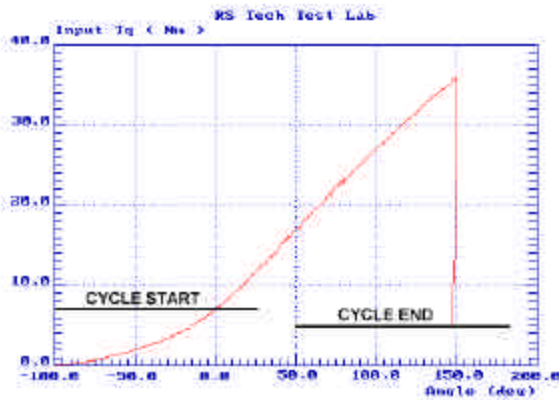

Figure 2. Cycle Start
- ▲ **Cycle Start** is the threshold value the instrument uses to start recording data and is typically set to a value about 10-20 percent of the expected peak. Refer to Figure 2.
- ▲ **Cycle End** is used to stop recording once the torque value falls below the value entered here and is set to a value below Cycle Start. Refer to Figure 2.